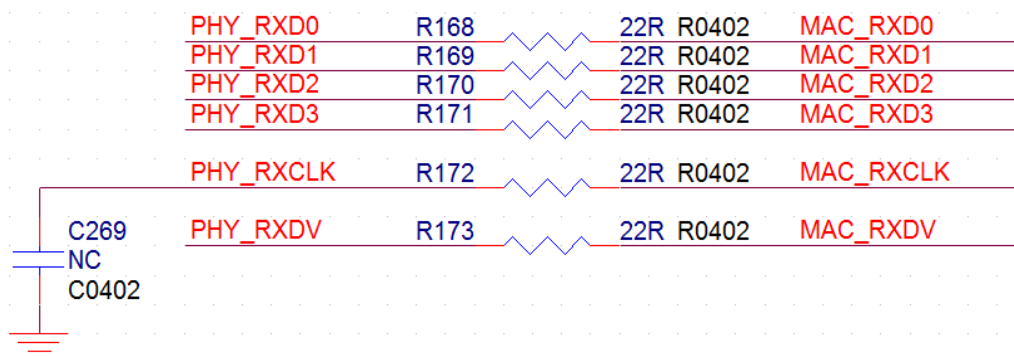

Figure 21-13
- The distance between other signals in Figure 21-13 should meet the 3W layout rule.